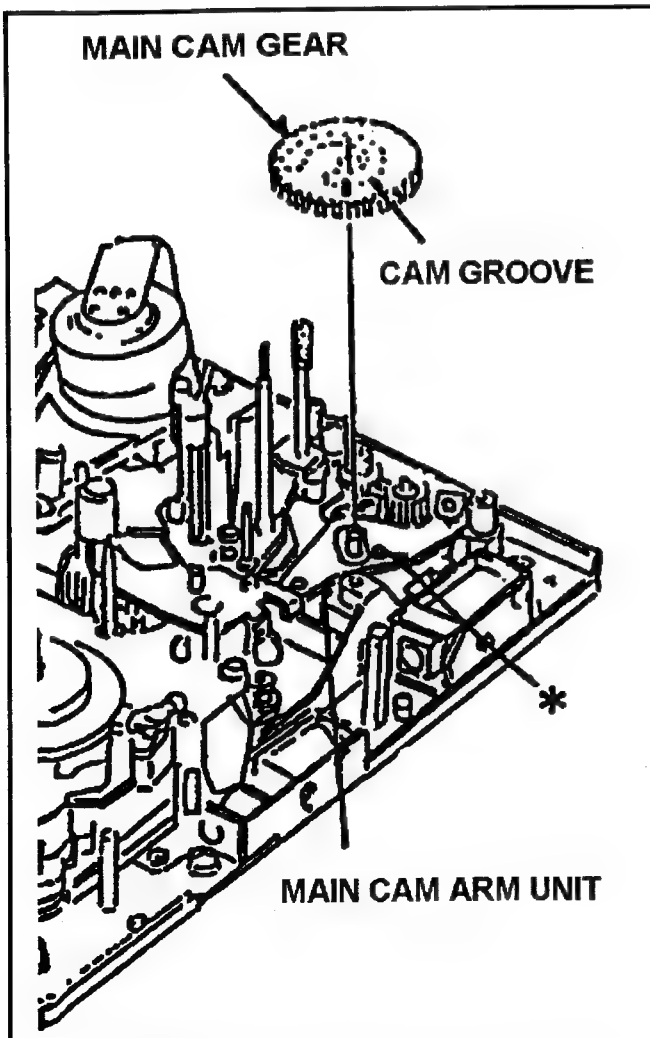

Fig. 8-16-1 Removal of Main Cam Gear
3. Remove the Pinch Solenoid Unit (Refer to item 8-5) and Loading Motor Neutral Unit (Refer to item 8-4).
4. Remove the Main Cam Gear as shown in Figure 8-16-1.
1. Install the Main Cam Gear so that the pin of Main Cam Arm Unit (※) matches the groove position of Main Cam Gear as shown in Figure 8-16-1.
3. After installing, Pinch Solenoid Position Adjustment is required (Refer to item 1-4 of section 3).